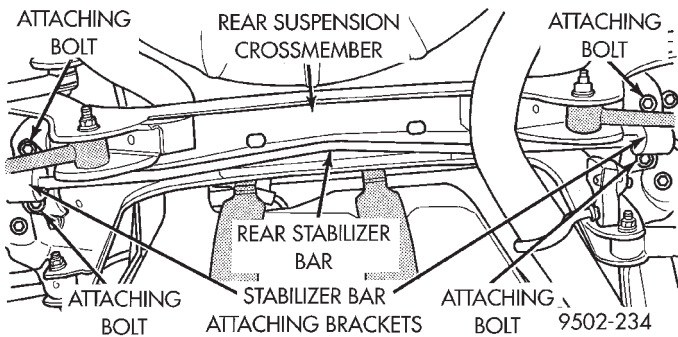

Fig. 41 Stabilizer Bar Attachment To Rear Suspension
(4) Remove the 4 bolts attaching the stabilizer bar bushing clamps to the rear suspension crossmember (Fig. 41).
- (4) Loosely install the stabilizer bar bushing clamps on the rear suspension crossmember.
- (5) Position stabilizer bar so it is centered in the vehicle and does not contact other suspension components or vehicle body.
- (6) Tighten bolts attaching stabilizer bar bushing clamps to the rear crossmember to a torque of 28 N·m (250 in. lbs.) (Fig. 41).
- (7) Install wheel and tire assembly on vehicle. Tighten the wheel mounting stud nuts in proper sequence until all nuts are torqued to half specification. Then repeat the tightening sequence to the full specified torque of 129 N·m (95 ft. lbs.).
- (8) Lower vehicle to the ground.